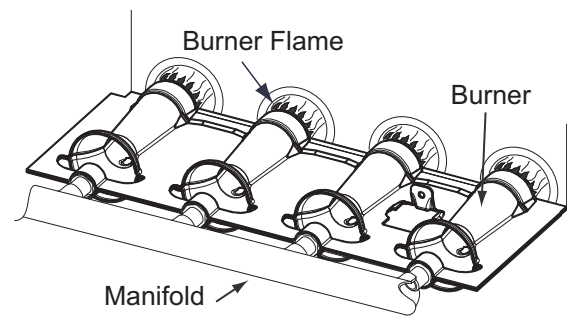

Fig. 28 - Burner Flame Adjustment
5. Start your furnace and observe its operation. Watch the burner flames to see if they are clear blue, almost transparent. See Fig. 28. If you observe a suspected malfunction, or the burner flames are not clear blue, call your dealer.